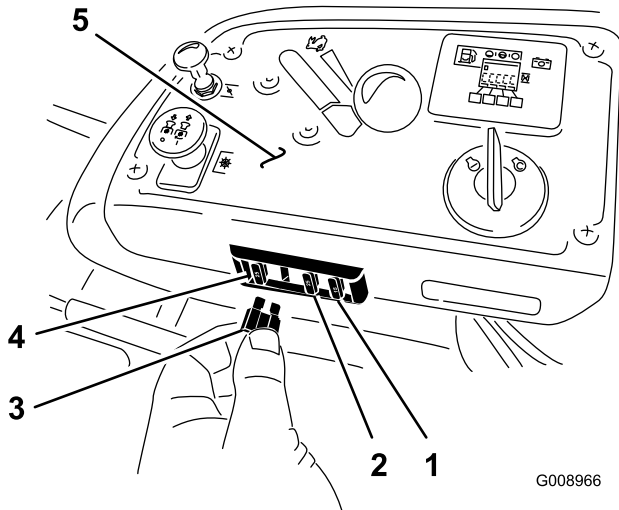

Figure 56
The fuses are located on the console to the right of the seat (Figure 56).
2. Install a new fuse (Figure 56).